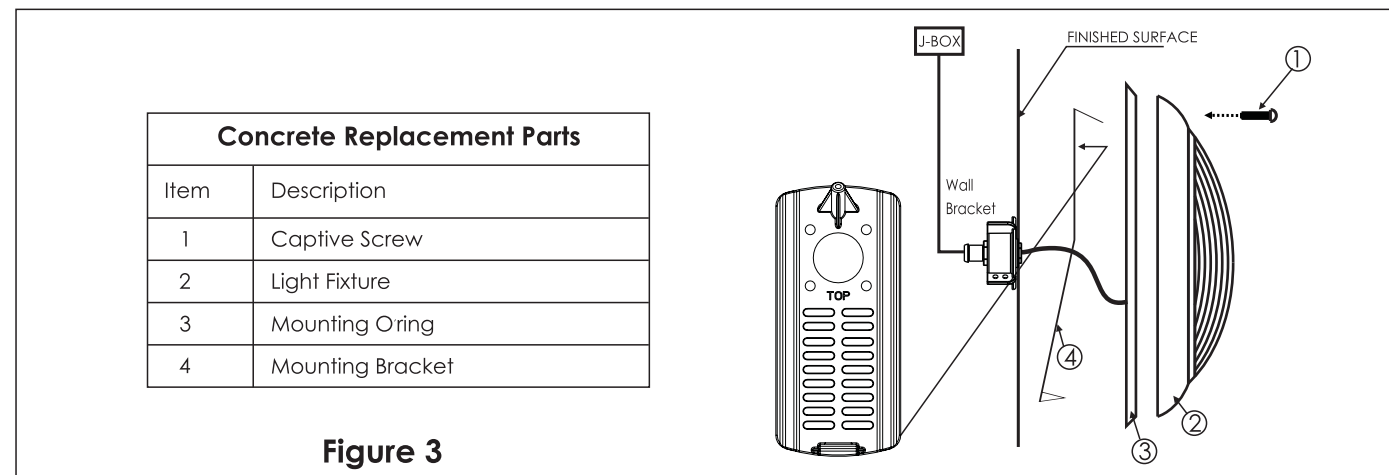

Figure 3
B) Perform the following steps after the electrical system requirements are met. See Figure 3.